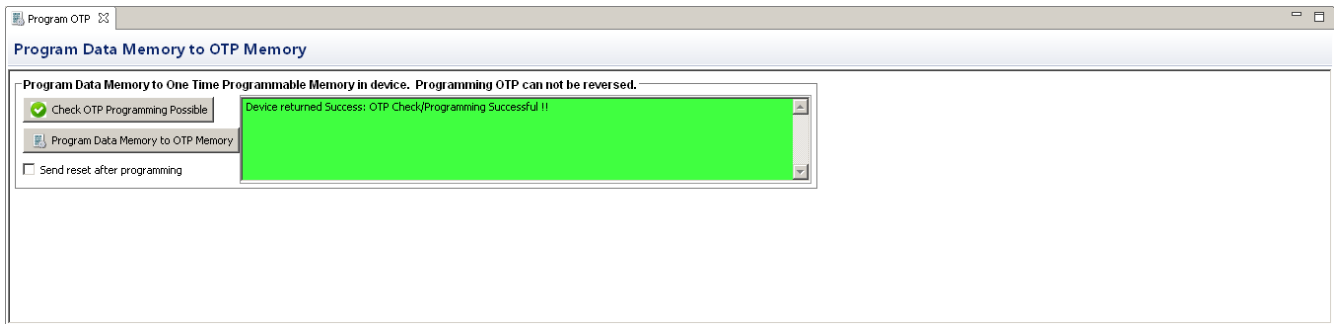

Figure 3-7. Program OTP Pane with Success Display
5. Select the Check OTP Programming Possible button. If not successful make the recommended adjustments if possible. If successful, the display is similar to Figure 3-7.